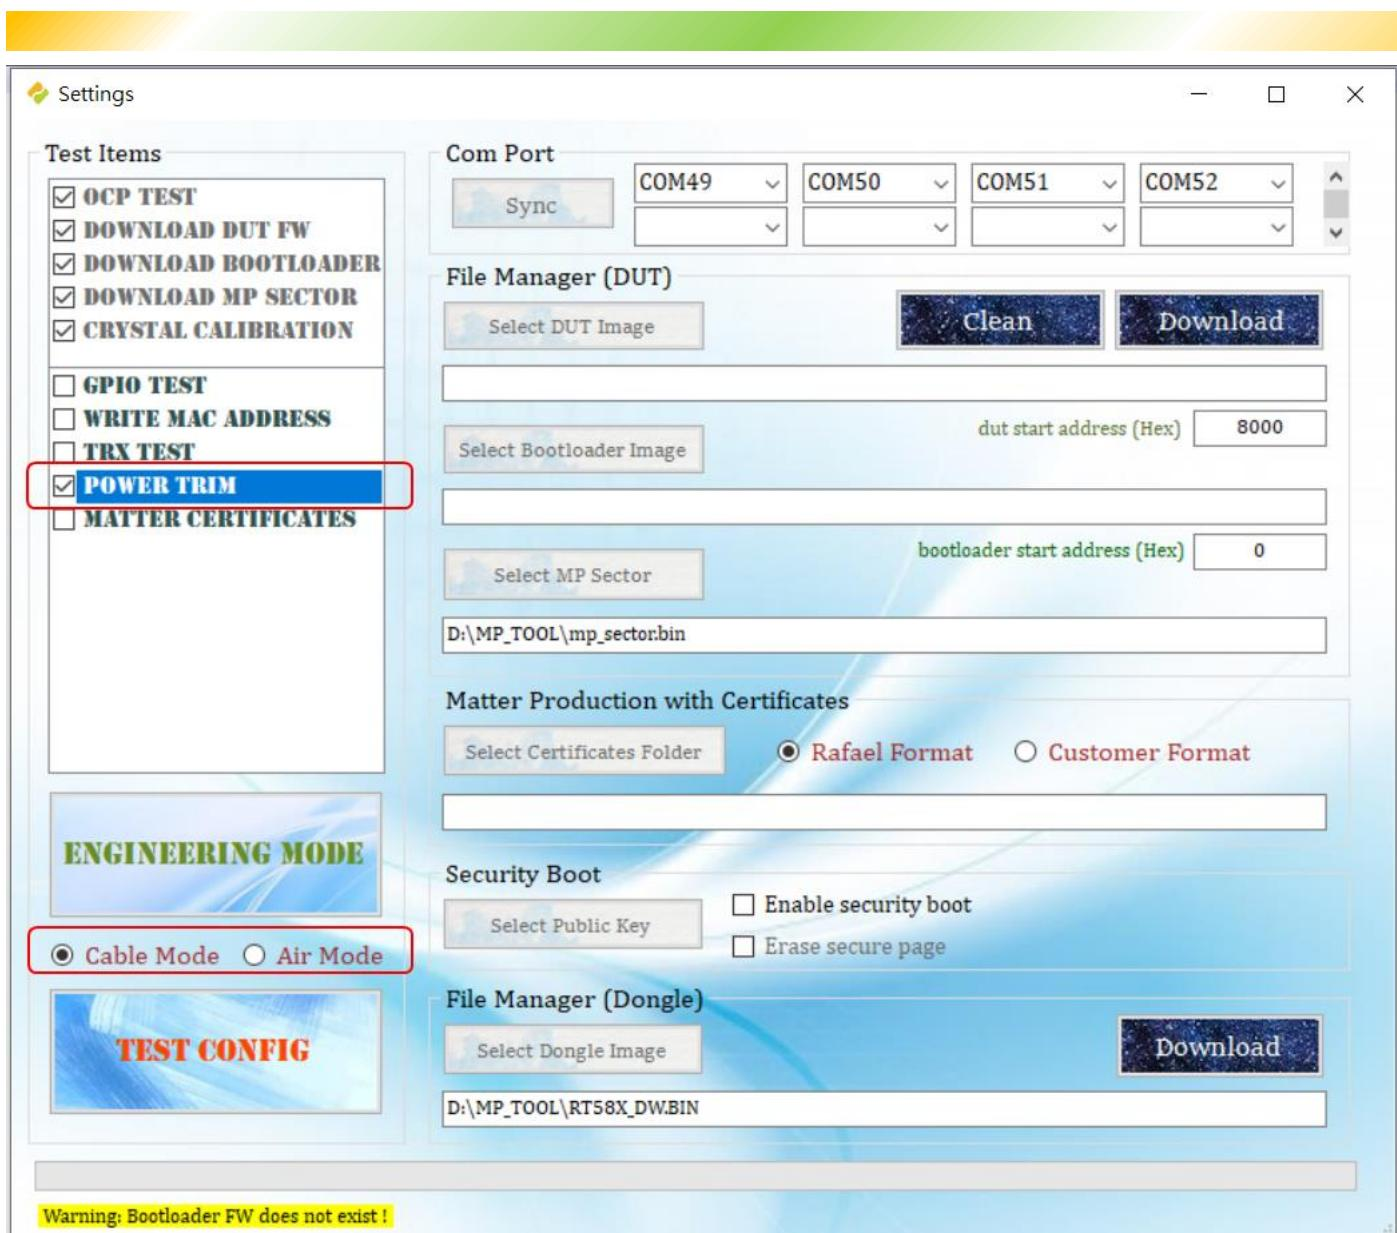

Figure 24. Power Trim Setting-3
7. Select “POWER TRIM” checkbox as shown in Figure 24.